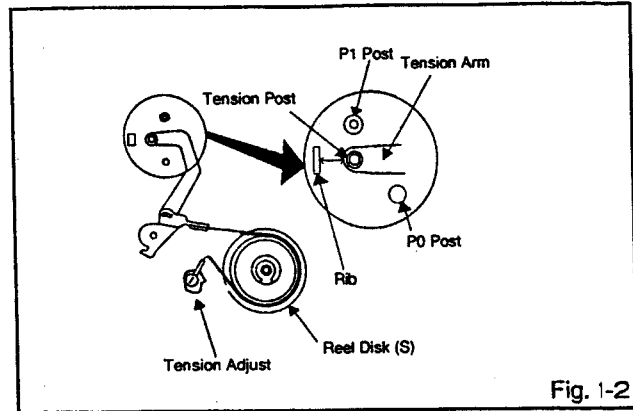

Fig. 1-2
1. Turn on the power and set to the PLAY mode adjust the Tension Adjust so that the Tension Post is at the position of 0.3mm~0.5mm from the Rib. (Refer to Fig. 1-2)